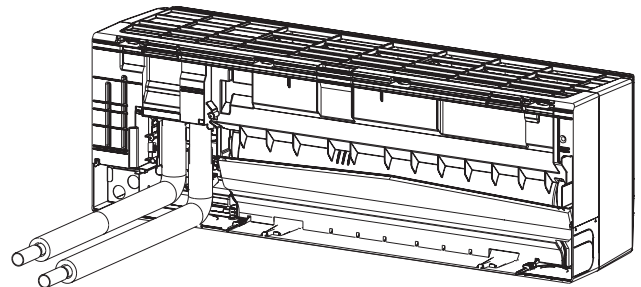

Fig. 3-20
- (8) Attach insulation materials ⓫ to the cut parts Ⓒ of the pipe covers to insulate them. (Fig. 3-20)
- (9) Attach Box cover Ⓐ.